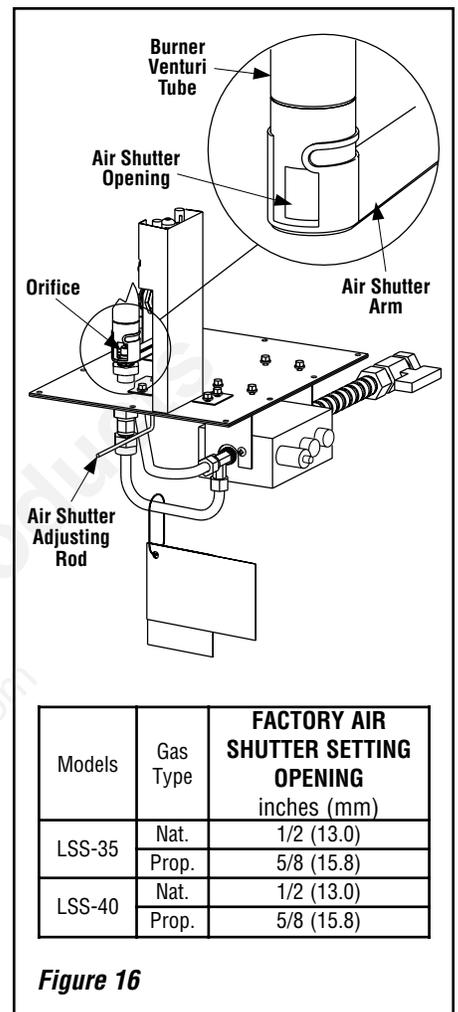

Figure 16
1. Locate adjustment lever and adjust air shutter to the standard setting as shown in **Figure 16** (adjustment rod is located in the lower control compartment).